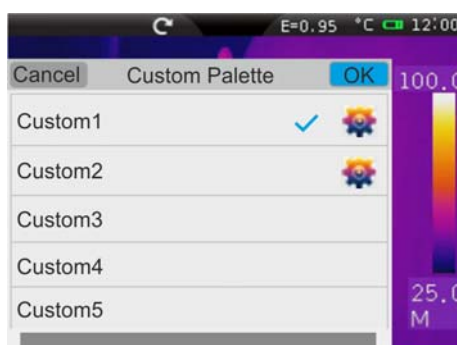

Fig. 50: Insertion of new user palettes
6. Touch the item “**Add**” to add further custom palettes (see Fig. 50). It is possible to add **max 8 palettes** further to the two available by default. By touching the item “**Remove**” it is possible to remove custom palettes, except for the two already available by default.